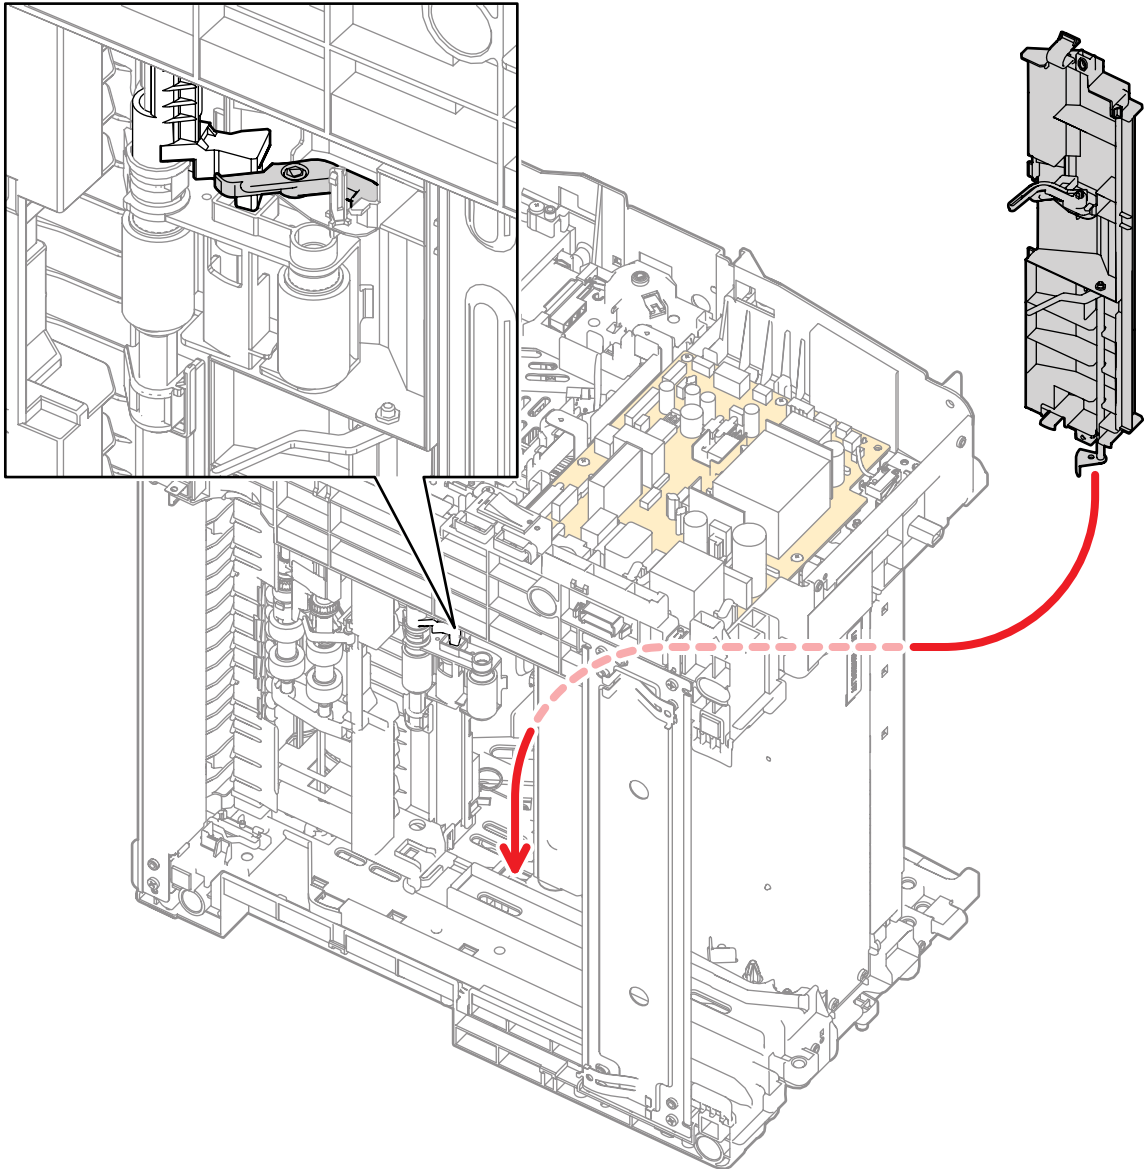

Figure 13
- When replacing the Top Frame Assembly, ensure that the No Paper Sensor Actuator passes through the hole in the chassis. (Figure 13)